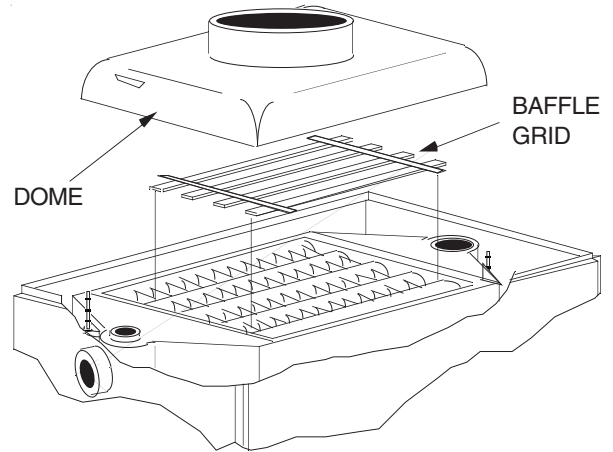

FIGURE 1.2B
4. Check proper seating of baffle grid inside of dome opening (see Figure 1.2B).